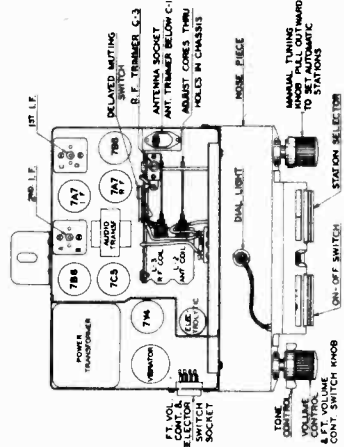
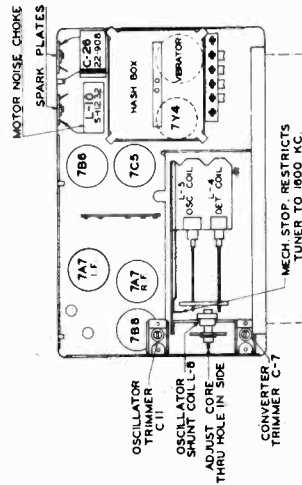

Fig. 10. Top View of Chassis.
Fig. 11. Bottom View of Chassis.
4. Adjust I.F. trimmers A, B, C, and D (Fig. 10), in the order named for maximum output. Repeat the operation to assure accurate alignment.
4. Adjust oscillator trimmer C-11 (Fig. 11), for maximum response.
6. Adjust oscillator trimmer C-11 (Fig. 11), at 1700 Kc.
7. Adjust converter trimmer C-7, R.F. trimmer C-3, and antenna trimmer C-1 (Fig. 10 and 11) for maximum output reading.
10. Adjust oscillator core (Figure 10) to scale at 1200 Kc.
11. Adjust the antenna core, R.F. core, and converter core (Fig. 10 and 11), for maximum output reading.
13. "Rock in" shunt oscillator coil (Fig. 10) for maximum output reading. (This should only be done as a last resort.) This is the same as rocking in the paddler condenser on a ganged condenser receiver.
7. Adjust converter trimmer C-7 (Fig. 11) and R.F. trimmer C-3 (Fig. 10) for maximum response.